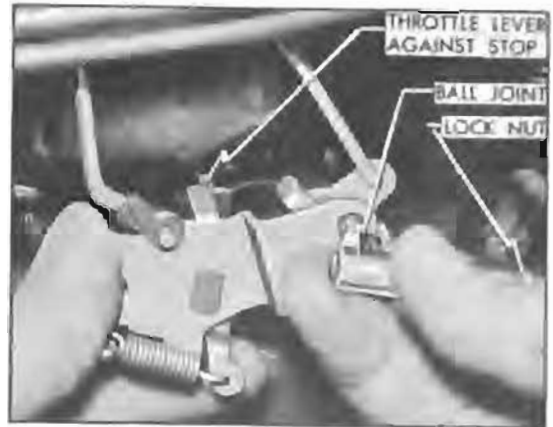

Figure 3-8—Throttle Rod Adjustment—Synchronesh
2. While a second man presses accelerator pedal firmly against the floor mat, which must be in place, adjust the ball joint on throttle operating rod so that the screw will just enter the hole in throttle lever. On *Carter* Carburetor the upper hole in throttle lever is used. See figure 3-8.